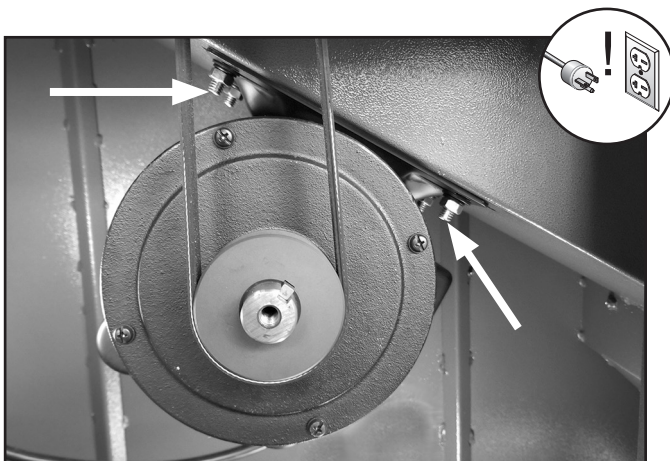

Figure 67. Location of motor mount fasteners (3 of 4 shown).
3. Loosen motor mount fasteners shown in **Figure 67**. DO NOT completely remove motor mount fasteners.
6. Tighten motor mount bracket fasteners (see **Figure 67**), and replace rear access panel.
3. Loosen motor mount bracket fasteners shown in **Figure 67**.
6. Tighten motor mount fasteners (see **Figure 67**), and replace rear access panel.